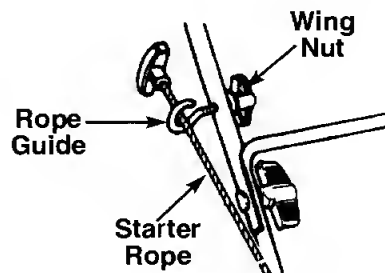

Figure 3
- Loosen the wing nut which secures the rope guide to the right side of upper handle. See figure 3.
- Lift the chute deflector on the mower. Slide the notches in the bottom of the mulching baffle over the lip of the discharge opening. See figure 3.